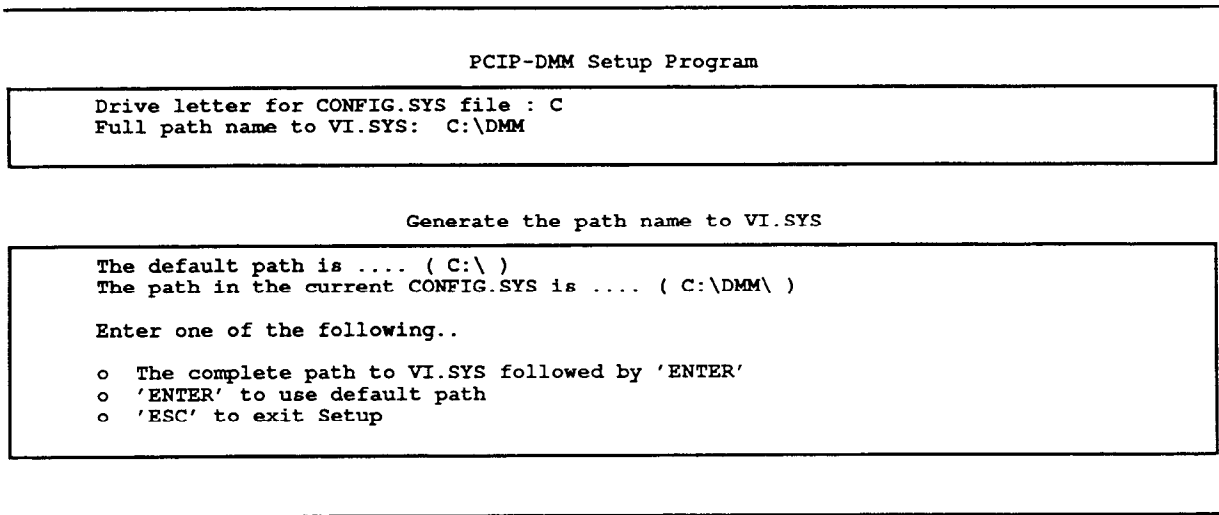

Figure 3-3. Generating the Path Name to VI.SYS
2. You will then be asked for the full path name to the *VI.SYS* file. If you are unsure of what a path name is, refer to the operator's manual provide with your PC. Otherwise, provide the path name, being certain to include the correct drive specifier and directory name(s). See Figure 3-3.